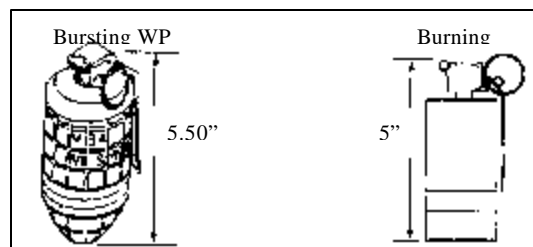

Figure 66. Smoke grenades.
- (5) There are two types of smoke grenades: bursting and burning. See figure 66. They may be made of rubber, metal, or plastic. Bursting-type smoke grenades are filled with White Phosphorous (WP) and blow up when the fuze functions. These grenades use a burning delay fuze that functions 3 to 5 seconds after the safety lever is released. Burning-type smoke grenades produce colored smoke. This type of grenade uses an instant action-action fuze. There is no delay once the spoon is released. This is the same type of grenade that is used to dispense riot-control agents (such as CS).